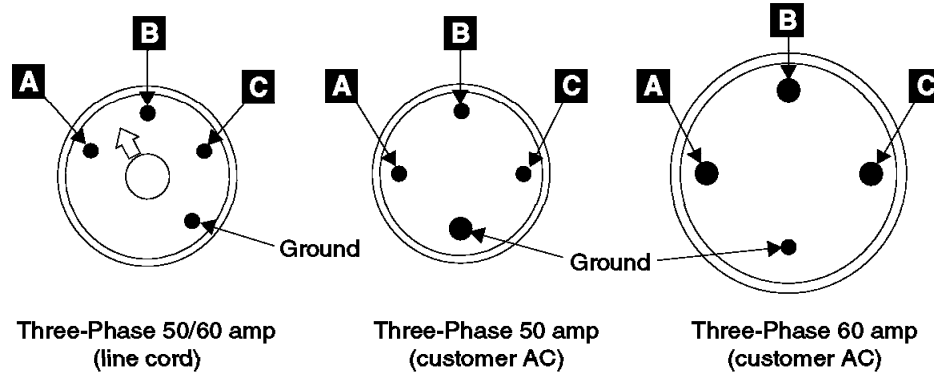

Figure 92. Three Phase Female Connector on the Mainline Power Cable (t007101l)
- For three-phase AC see Table 11 and Figure 92 on page 111.